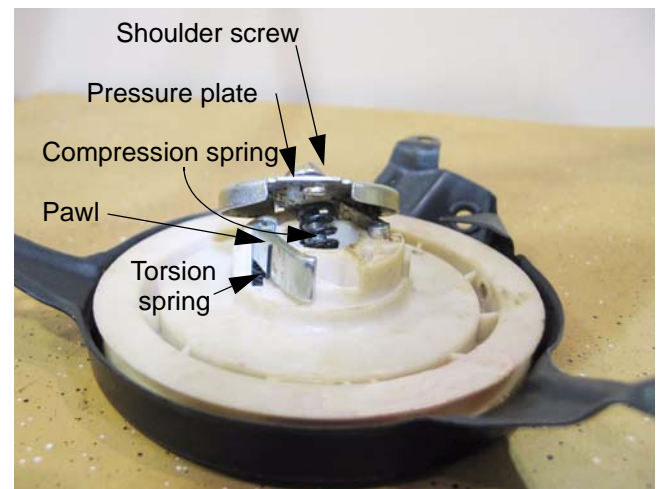

**Figure 6.11**
4. Carefully lift the spring and pulley out of the recoil housing. See Figure 6.11.